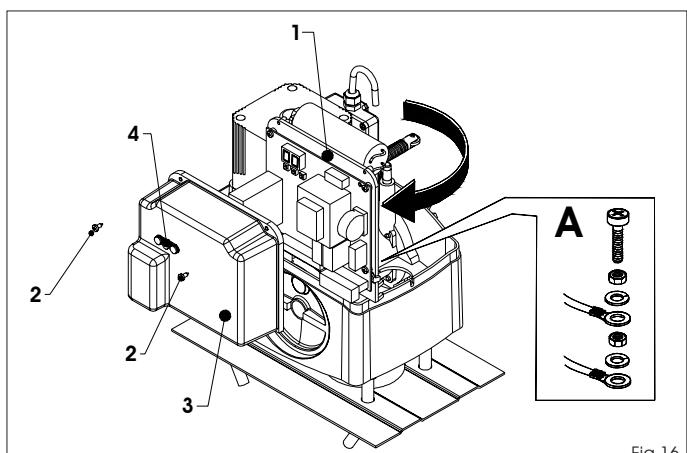

Fig.16
Connect the earth cables as shown in Fig. 16 ref.A.
In the "C" version gearmotors, the electronic control unit is fitted to an adjustable support (Fig. 16 ref. 1) with transparent lid (Fig. 16 ref. 3). The board programming push buttons (Fig. 16 ref. 4) have been located on the lid. This allow the board to be programmed without removing the lid. For correct connection of the control unit, follow indications the specific instructions: